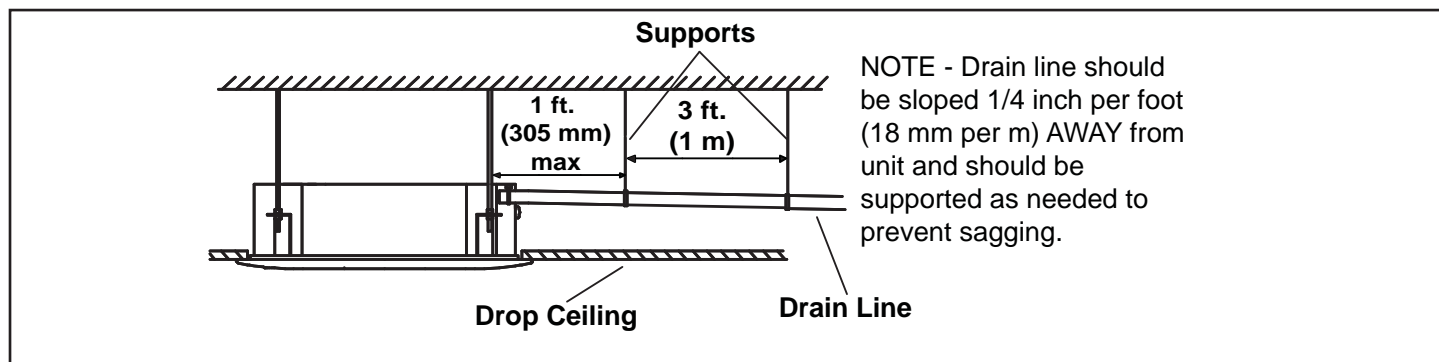

Figure 7. Sloped Condensate Drain -- Single Unit
3. See figure 7 for applications including a single unit and a single drain. In this case, ensure that the drain line is properly sloped (no less than 1/4 inch per foot) and condensate lines are routed to ensure moisture is drained away from the indoor unit.